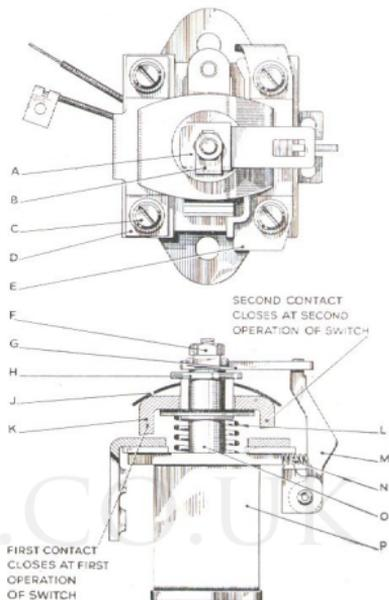

Fig. 85. Solenoid switch.
7. Intermittent starter operation with the starter button held down can be caused by second contacts (Fig. 85) on solenoid switch being burnt or starter brushes worn. Faulty connections on starter button or battery terminal posts can also cause this.
Connect a 24-volt battery to the main starter terminals, battery positive to starter positive. Connect a lead from battery positive to SOL terminal through a push-button switch. Insert a piece of paper between the second contacts (Fig. 85), of the solenoid switch.